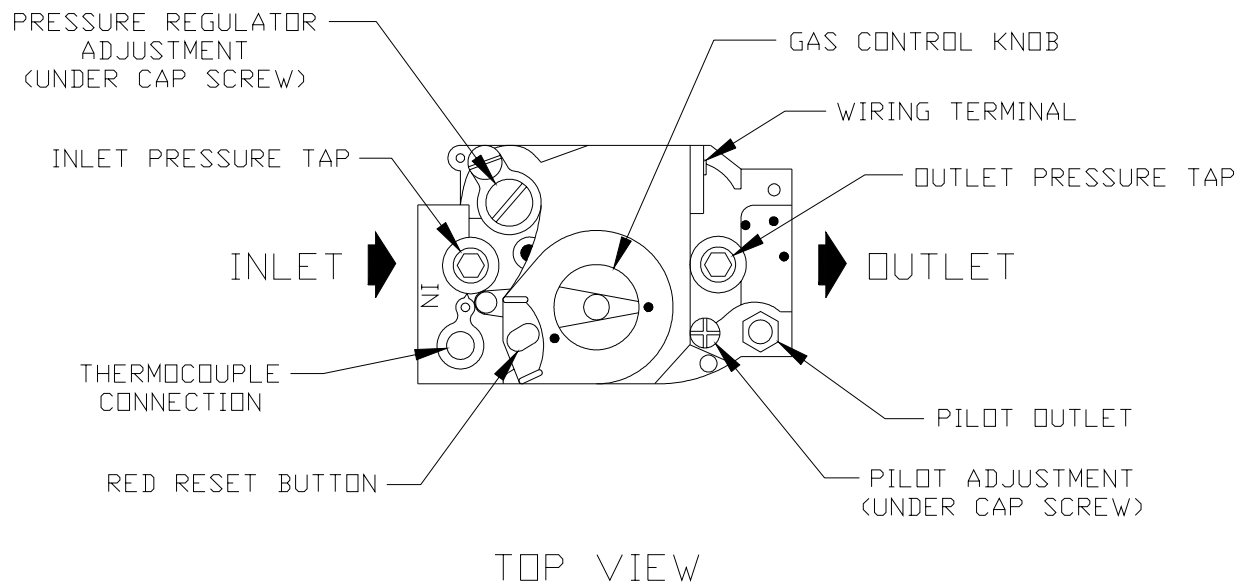

FIGURE24: GAS VALVEDETAIL -STANDINGPILOT
- a) Connect a manometer to the line pressure tap on the gas valve (see Figures 24 and 25).
- c) Connect a manometer to the manifold (outlet) pressure tap on the gas valve (see Figures 24 and 25).
- e) If a manifold pressure adjustment is needed, make the adjustment by turning the regulator (see Figures 24 and 25) screw clockwise to raise the pressure and counter clockwise to reduce the pressure. If a manifold pressure adjustment is made, recheck the line pressure to be certain that it is still within acceptable limits. Replace the cover screw on the regulator.